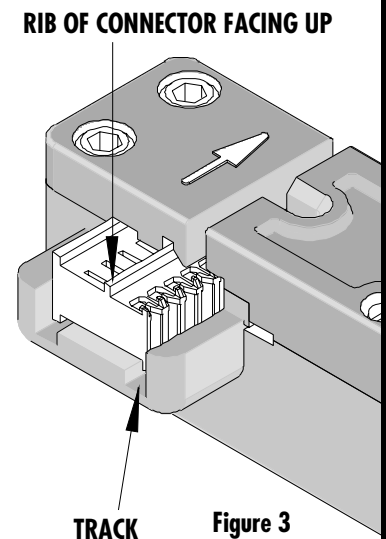

Figure 3
2. Place the proper connector into the track; the rib of the connector should be facing up. See Figure 3.